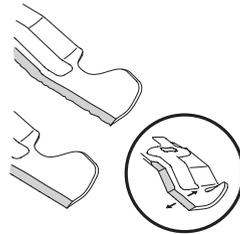

Figure 23
5. To properly sharpen the cutting blade, remove equal amounts of metal from both ends of the blade along the cutting edges, parallel to the trailing edge, at a 25° to 30° angle. Always grind each cutting blade edge equally to maintain proper blade balance (Figure 23).